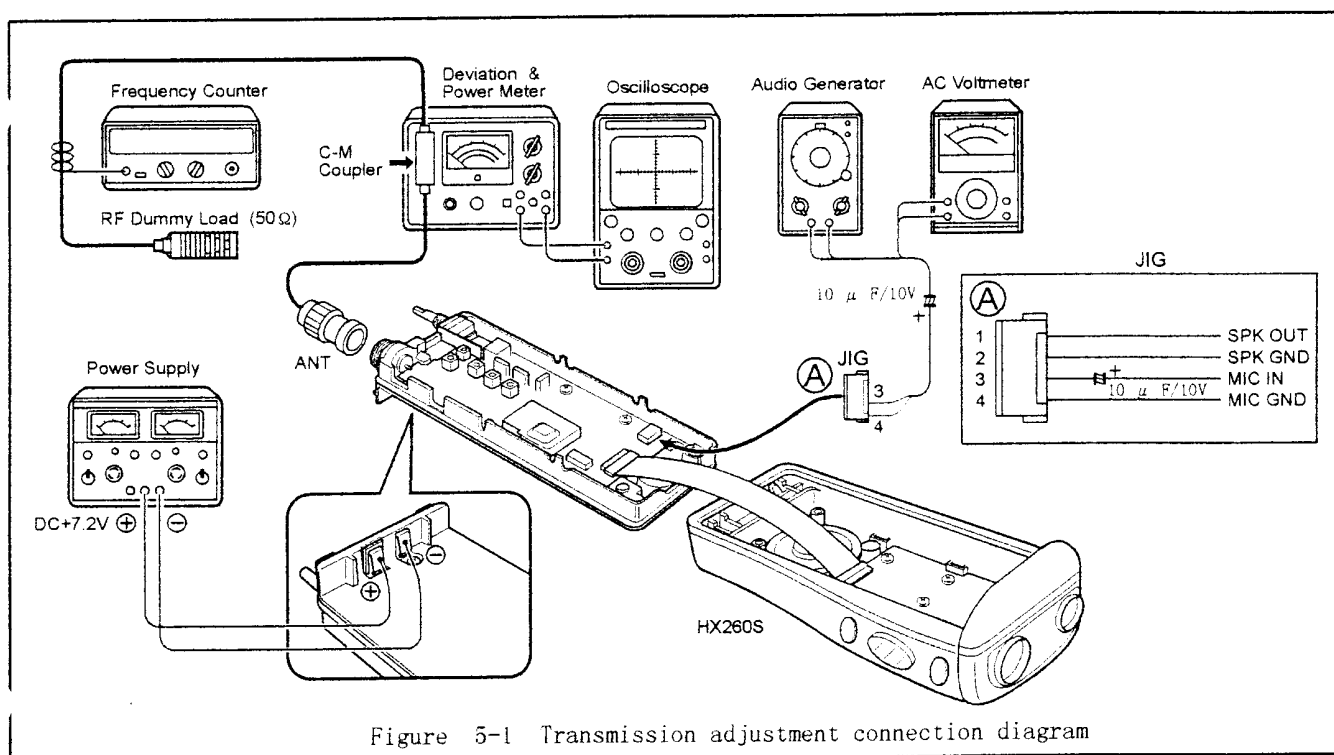

Figure 5-1 Transmission adjustment connection diagram
- (a) Make connections as shown in Figure 5-1.
- (a) Make connections as shown in Figure 5-1. Then use the transceiver's H/L key to switch transmission power to the high setting.
(c) Make connections as shown in Figure 5-1. Then use the transceiver's H/L key to switch transmission power to the high setting.